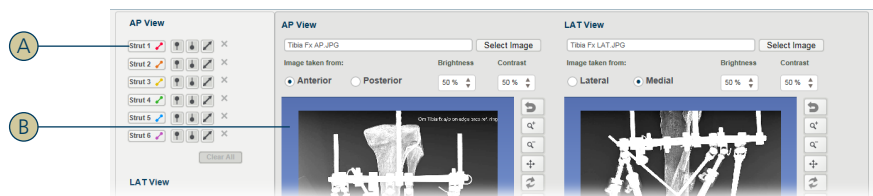

Figure 75 – PFM—Strut selection
1. Click the corresponding strut selection button on the left side of the view (cf. [A] in figure 75). The mouse cursor indicates the selected strut (cf. [B] in figure 75).
Next to each strut selection button (cf. [A] in figure 75 on page 68), you find the following options to include or exclude specific components in the frame matching calculation:
To display a strut's hinges in the zoomed views, click the corresponding strut selection button on the left side of the view (cf. [A] in figure 75 on page 68). Only the activated strut can be manipulated in the close-up assist windows.